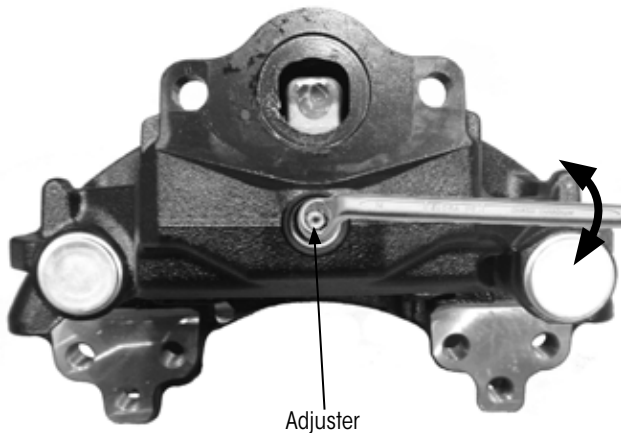

Figure 34: Checking adjuster movement
2. Use the 8 mm deep offset box end wrench to **turn** the adjuster counterclockwise moving piston towards the brake rotor (Figure 34). **Check** for ease of movement when doing this.